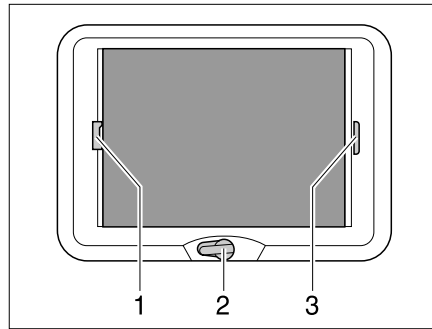

Fig. 95 Wind-up skylight
- Rotate the hand crank (Fig. 95,2) until a resistance can be felt (max. opening angle 70°).
- Pull the handle of the Roman shade (Fig. 95,3) and release in the desired position. The Roman shade will stay in that position.
- Pull insect screen at the handle (Fig. 95,1) to the opposite handle of the Roman shade (Fig. 95,3) and allow to engage.
- Press the handle of the insect screen (Fig. 95,1) at the back upwards and detach the insect screen from the Roman shade (Fig. 95,3).